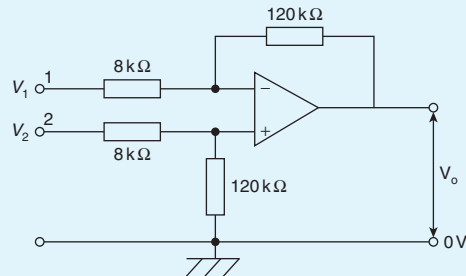

Figure 19.21
5. In the differential amplifier shown in Fig. 19.21, determine the output voltage, V_o , if: (a) $V_1 = 4\text{ mV}$ and $V_2 = 0$ (b) $V_1 = 0$ and $V_2 = 6\text{ mV}$ (c) $V_1 = 40\text{ mV}$ and $V_2 = 30\text{ mV}$ (d) $V_1 = 25\text{ mV}$ and $V_2 = 40\text{ mV}$.